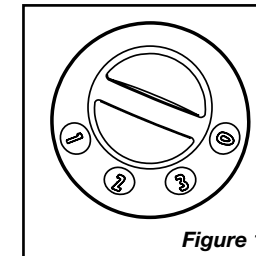

Figure 1
4. Turn the Fan ON by selecting the desired speed with the Power Knob on the top of the Fan. (Figure 1)